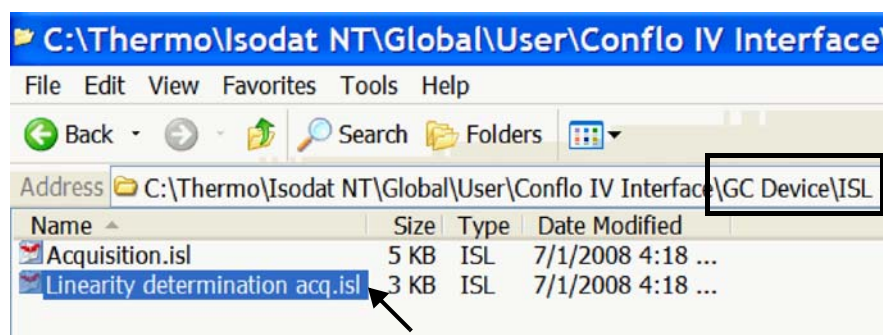

Figure 5-50. Identifying linearity script for the CO₂ linearity test
1. Therefore, identify the script Linearity determination acq.isl in the folder C:\Thermo\Isodat NT\Global\User\Conflo IV Interface\GC Device\ISL. See arrow in Figure 5-50.